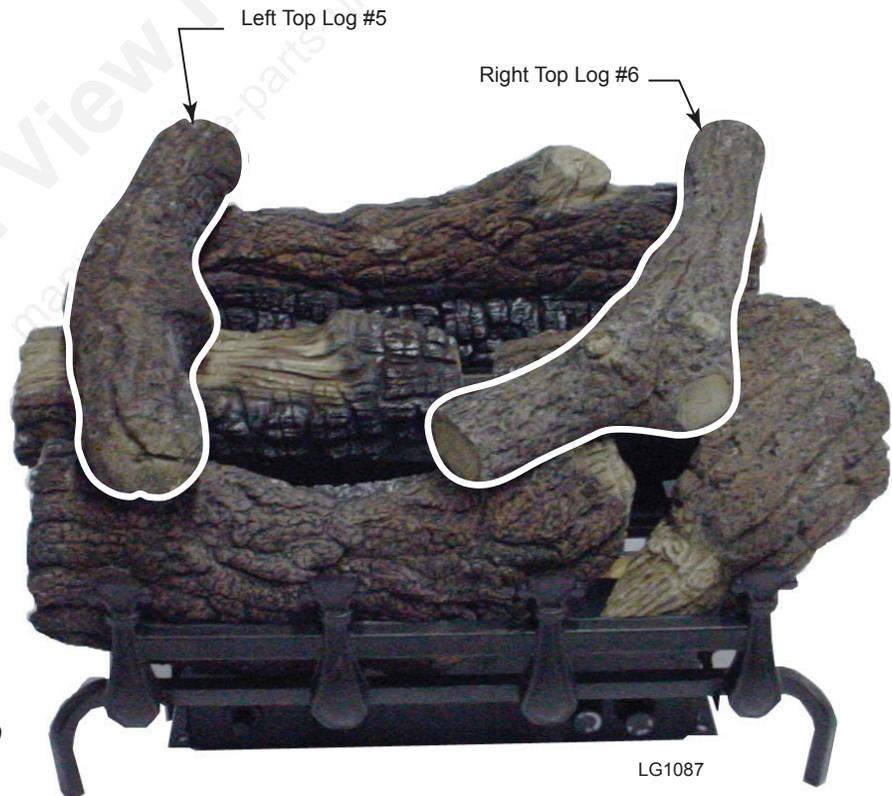

Figure 20
6. Rest Right Top Log (#6) on front and rear log cutouts. *Figure 20*